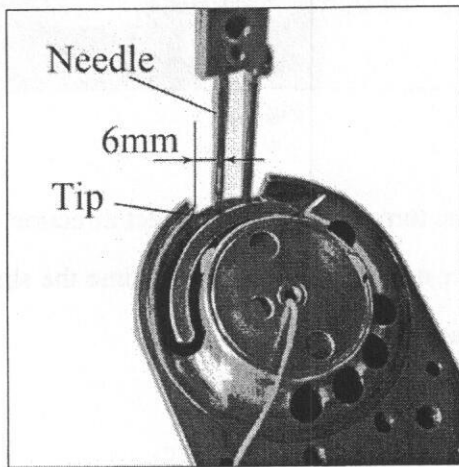
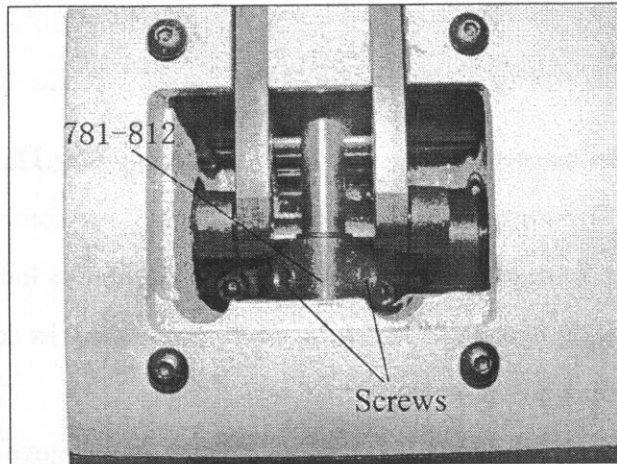

Fig.13
Fig.14
4.4 Adjustment setting of shuttle's position (Fig.13、 Fig.14)